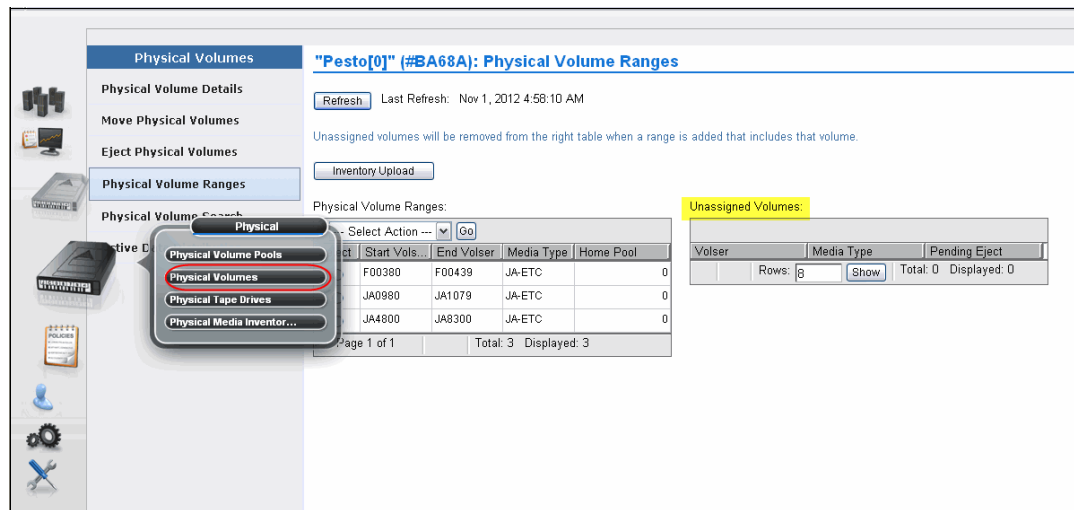

Figure 9-160 TS7740 unassigned physical volumes
A physical volume goes to the Unassigned category in the TS7740 or TS7720T if it does not fit in any defined range of physical volumes for this TS7700 cluster. Defined Ranges and Unassigned Volumes can be checked in the TS7700 MI Physical Volume Ranges window that is shown in Figure 9-160.
- ▶ A cartridge that has been manually assigned to the TS7700 logical library does not display automatically in the TS7700T inventory. An Inventory Upload is needed to refresh the TS7700 cluster inventory. The Inventory Upload function is available on the Physical Volume Ranges menu as shown in Figure 9-160.